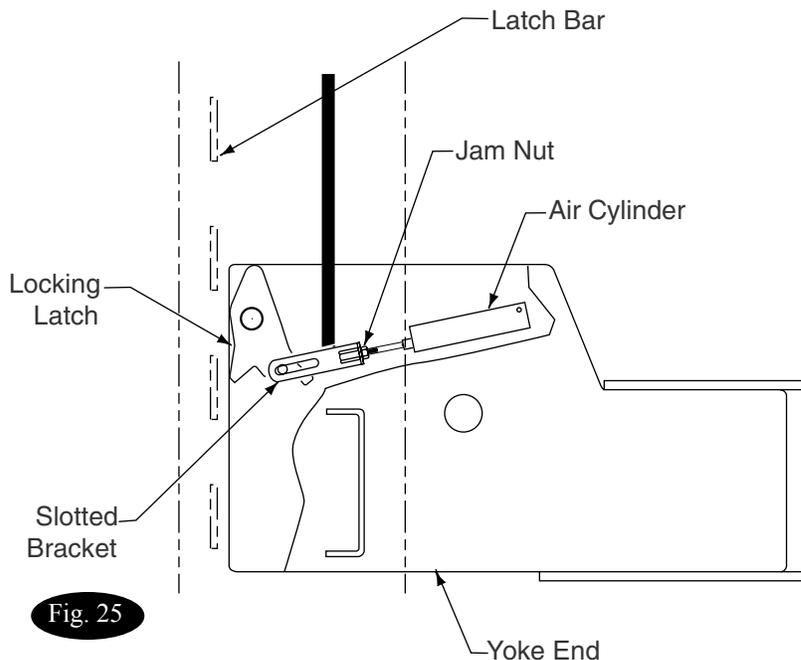

Fig. 25
- H. Actuate air valve and check latch operation on all four (4) corners. When releasing locks, the locking latch should pull back flush with yoke end to clear the latch bar located in all four (4) columns, Fig. 25. Adjust, if required, by removing cotter pin and washer holding Slotted Bracket on locking latch and screwing Slotted Bracket in to move it toward the air cylinder. After adjustment, replace washer and secure Slotted Bracket with a new cotter pin. Tighten jam nut. Apply Loctite® to jam nut to hold in place.